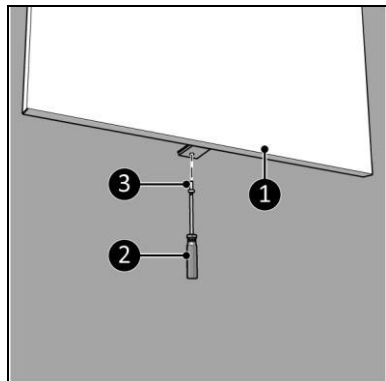

Figure 12
13. Screw and tighten the device (Figure 12, pos. 1) with a small screw (Figure 12, pos. 3) to the wall bracket using a Phillips screwdriver (Figure 12, pos. 2).